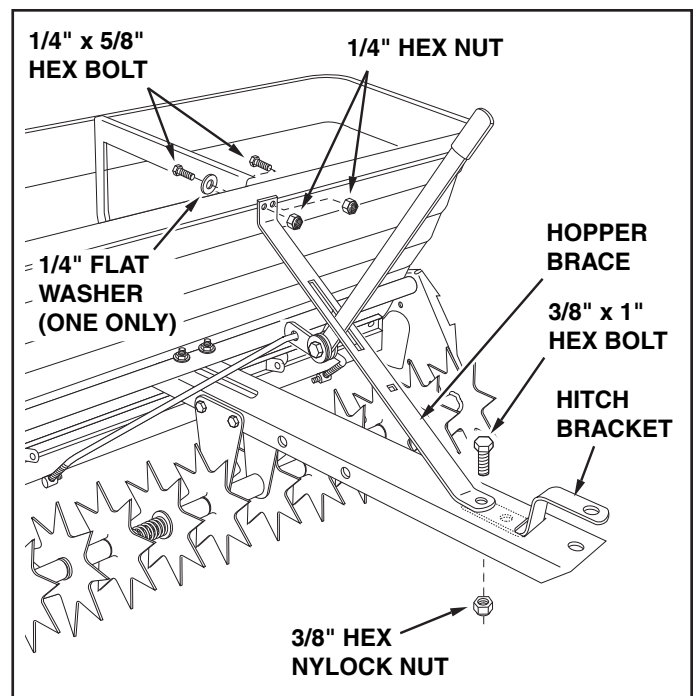

FIGURE 4
- Attach the hopper brace to the hopper using two 1/4" x 5/8" hex bolts, one 1/4" flat washer and two 1/4" hex nuts. **Do not tighten yet.** See figure 4.
- Place the end of the hitch bracket with two holes down through the slot in the tongue. Attach the hopper brace to the top of the tongue and the hitch bracket to the bottom using one 3/8" x 1" hex bolt, 3/8" lock washer and 3/8" hex lock nut. **Do not tighten yet.** See figure 4.